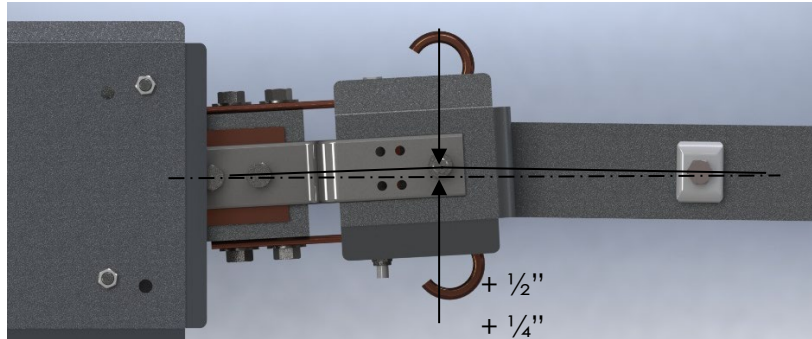

Figure 11: Left-handed Switch Blade Over Toggle
- 2) The switch blade over toggle should be between $\frac{1}{4}$ " and $\frac{1}{2}$ ". See Figure 11. If necessary, use the live parts close position stop bolt to adjust the over toggle.